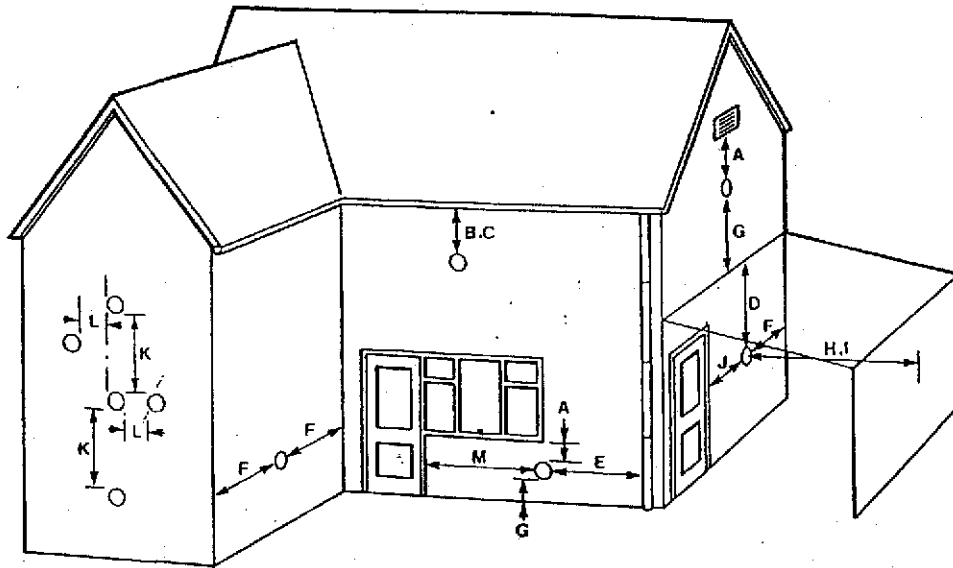

Fig. 1
- 10 The minimum dimensions for positioning the flue terminal are shown in Fig. 1.